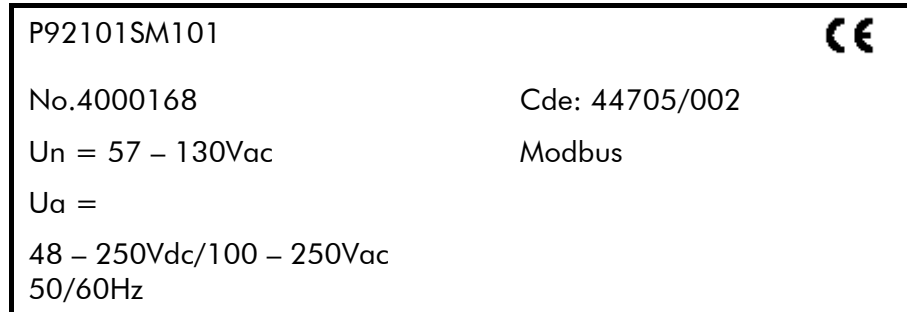

FIGURE 3: TECHNICAL INFORMATION
- the relay serial number, and the relay's voltage rating information (see figure 3 in this chapter).